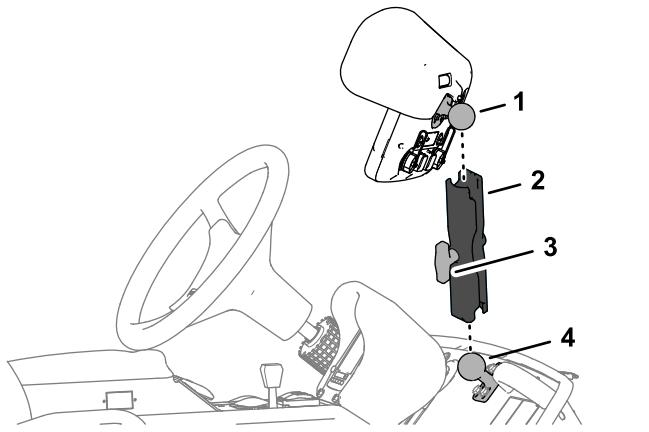

Figure 137
1. Loosen the knob of the monitor arm until you can slip both the ball pivot for the fitting at the back of the sprayer monitor and the ball pivot for the mount at the dash panel into the socket monitor arm (Figure 137).
2. From the driver's seat (left seat), adjust to position of the sprayer monitor so that you can easily view the display screen (Figure 137).
3. Tighten the knob for the monitor arm by hand (Figure 137).